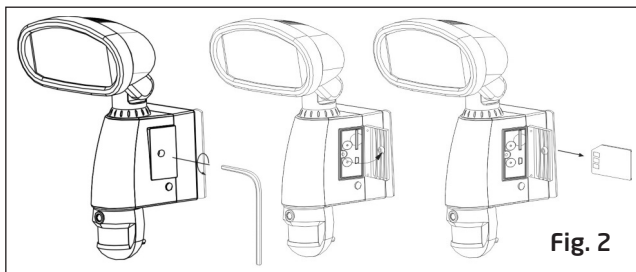

Fig. 2
Step 2 - Insert/remove SD card (see Fig. 2)